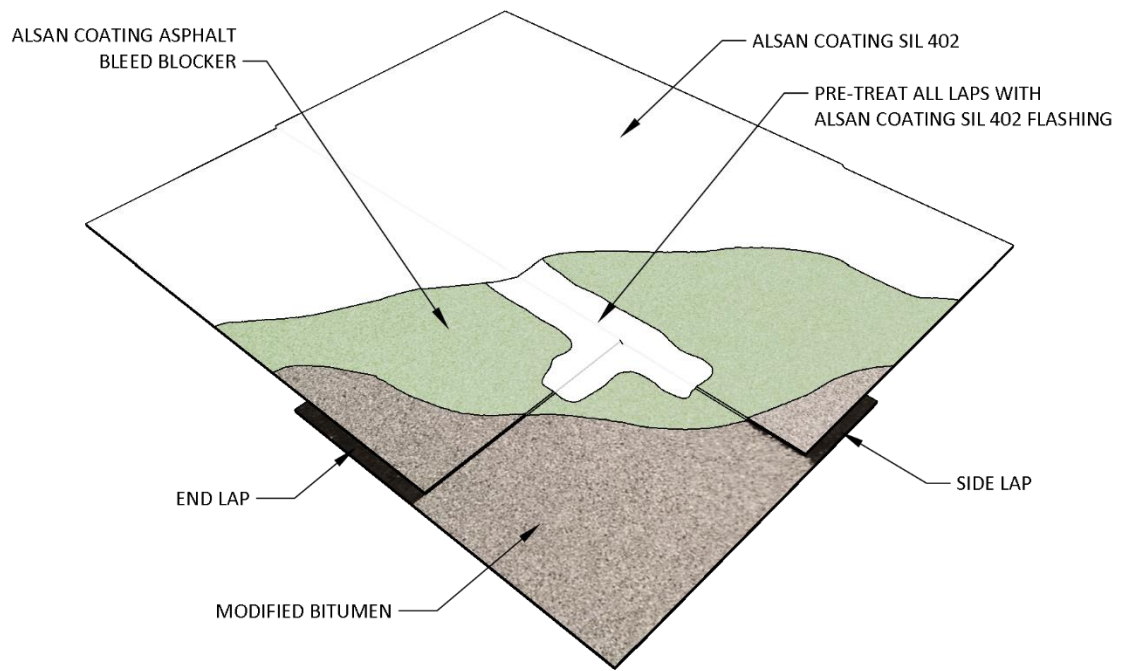

Figure 2.1a Silicone Roof Coating Over Modified Bitumen, Side/End Laps
- Refer to flashing detail guidelines indicated in Figures 2.1a through 2.1d.
- For ALSAN® COATING SIL 402 flashing detail guidelines, refer to Figures 2.1a through 2.1t.